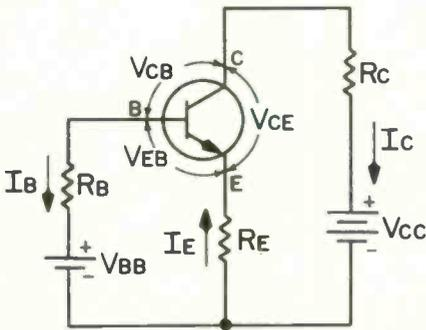

Fig. 1 — Input currents I_B and I_E effect the circuit's output current (I_C).
■ A previous article in this series on junction transistors described the three basic transistor circuits and how two of these circuits can be combined to form a single circuit with dual independent inputs. We will continue to describe the function of junction transistor circuits with the aid of labels applied to the dual input NPN circuit (Fig. 1).